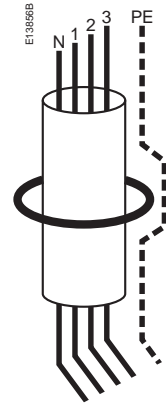

Figure 2.
- internal diameter of toroid > 1.4 x external diameter of the cable bundle (figure 2);